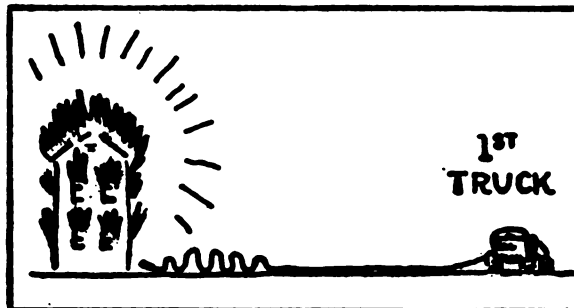

Figure 1.
- (1) The first truck to arrive will make a reverse lay, proceed in the safest and most direct route toward the water supply until all hose has been laid, and stop. The hose will be connected to the discharge gate toward the fire in the same manner as a normal reverse lay. The pump operator will remove the suction cap on the opposite side from the hose line and connect the $4\frac{1}{2} \times 2\frac{1}{2}$ -inch double female to the suction side of the pump. When the second truck arrives, the pump operator will assist in connecting the hose line to the intake of the pump. See figure 1.